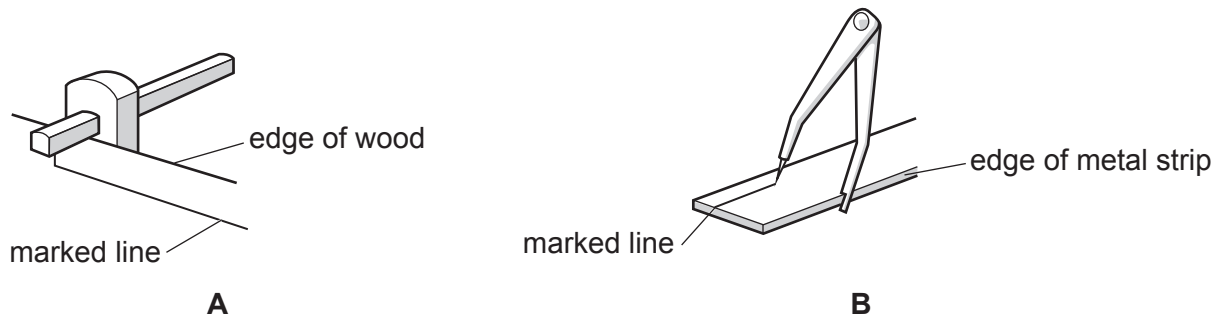

Fig. 8.1
- 8 Fig. 8.1 shows two tools, **A** and **B**, that are used to mark lines parallel to the edges of materials.
Name tools **A** and **B** shown in Fig. 8.1.